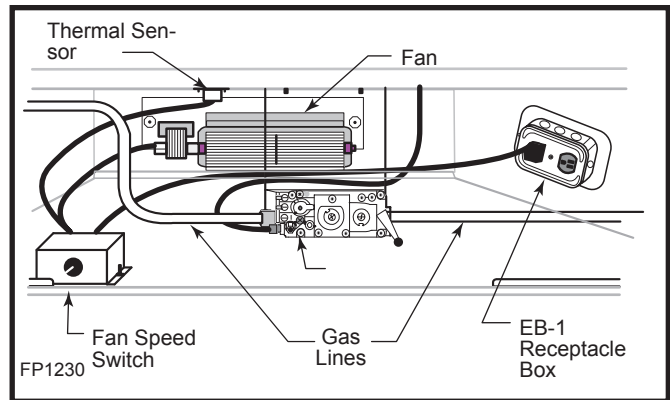

Fig. 58 FK24 fan placement.
3. Locate the fan speed control unit. This can be fitted behind the lower louvre assembly as in Figure 58 or located remotely in a conveniently located wall mounted electrical box. Remote location of the speed control will require suitable extension of the component wiring.